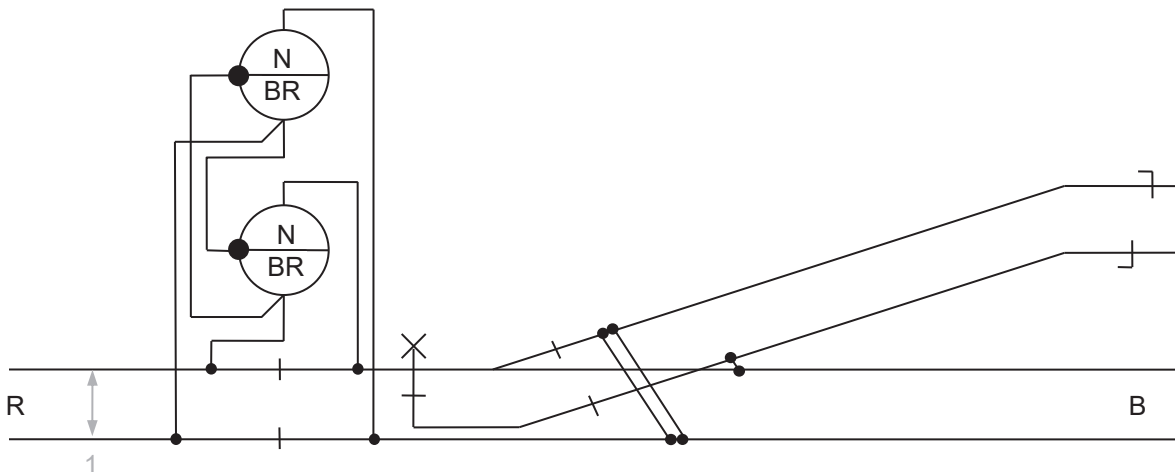

Figure 1: Track Circuit: Break and Shunt
4. Check Initial State	<ul style="list-style-type: none"> Switch the multi-meter to a low voltage range. Connect the meter between the rails as indicated in Figure 1, with the proper polarity. → Check meter indicates normal track voltage.